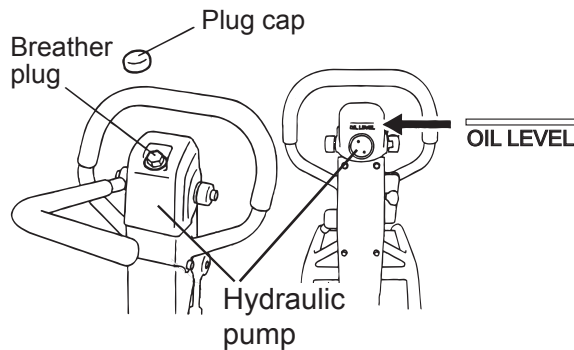

Figure 28. Removing Plug/Breather Cap
1. With the handle in vertical position, remove the plug cap from the hydraulic pump (Figure 28).
8. Pour hydraulic oil (550 cc) to the hydraulic pump breather plug attachment hole (Figure 28).